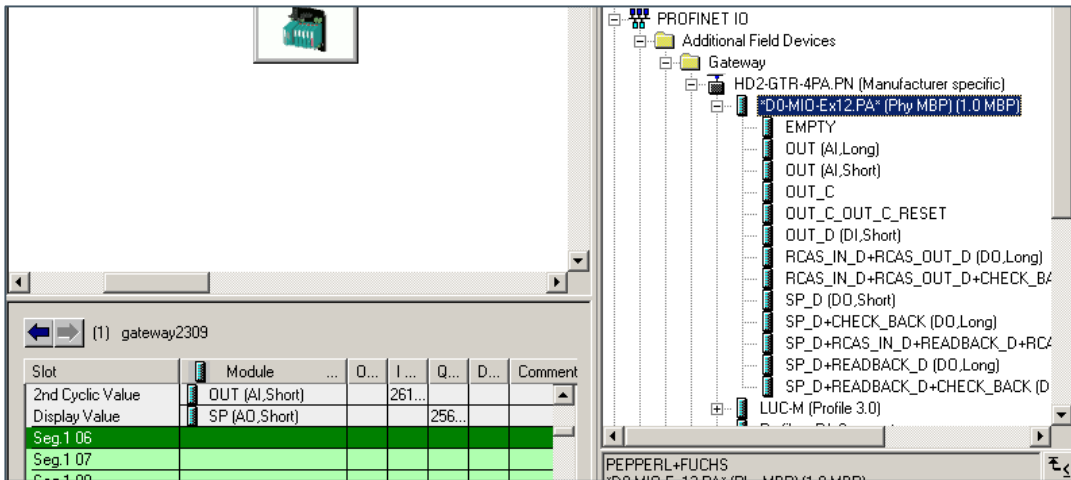

Figure 32: Adding the Multi-Input/Output Device to PROFINET gateway
- 3) Step 2 is repeated for additional PROFIBUS PA devices. For the example 2 that is used so far, select the **Seg.1 06** at the left bottom table. To add the Multi-Input/Output Device to **Seg.1 06**, click **PROFINET IO > Additional Field Devices > Gateway > HD2-GTR-4PA.PN > *D0-MIO-Ex12.PA*(Phy MBP)(1.0 MBP)** at the right side of the window (see: Figure 32: Adding the Multi-Input/Output Device to PROFINET gateway).